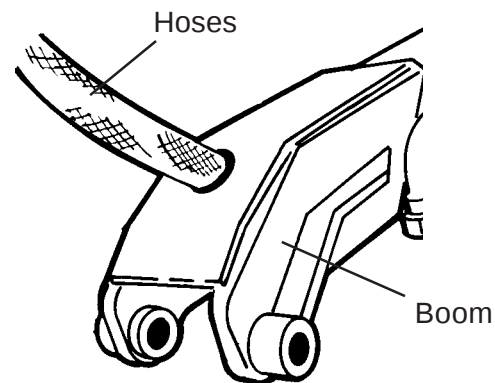

Figure 1
1. Hoses on Booms are shipped folded back inside Boom. Hoses must be pulled out and moved to clear, then routed in the end of Boom before installing Boom on the King Post (See Figure 1)
2. Pull the Lift Cylinder out to its full stroke, to aid in the installation of the Lift arm (See Figure 1). When Pulling Cylinder Out, attach a Hose to the Rod end and lay the Hose in a drain pan. This will catch any Oil expelled when Cylinder is pulled out.
6. Connect Boom Hoses. The hoses are already connected to Boom (See Figure 1 & 6), they will have the Same Color Plastic Ties as the Hoses that run from the Plate on frame to the Tank and Pump (See Figure 7). Connect these hose to the Bulkhead Fittings on frame (See Figure 7)